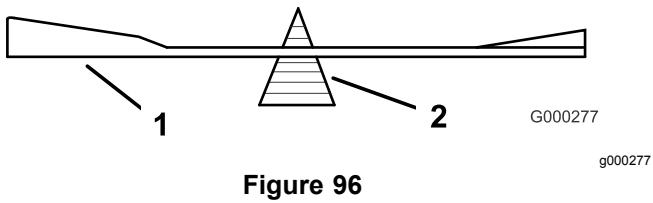

Figure 96
- Check the balance of the blade by putting it on a blade balancer (Figure 96).